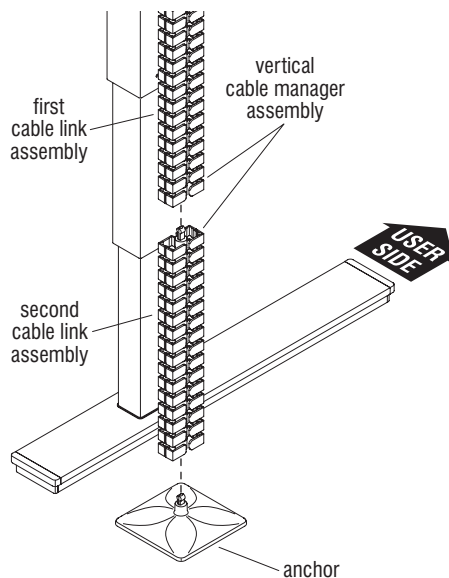

Figure 5
3. Orient a second cable link assembly under the first cable link assembly (and/or under the magnet section) such that the link wing openings match the link assembly above. Snap the connector of the second section into the receiving end of the link assembly above it (Figure 5 & Detail B).
4. Place the anchor at the desired location on the floor (Figure 5).
5. Take the end of the vertical cable manager assembly and snap the anchor into it (Figure 5).